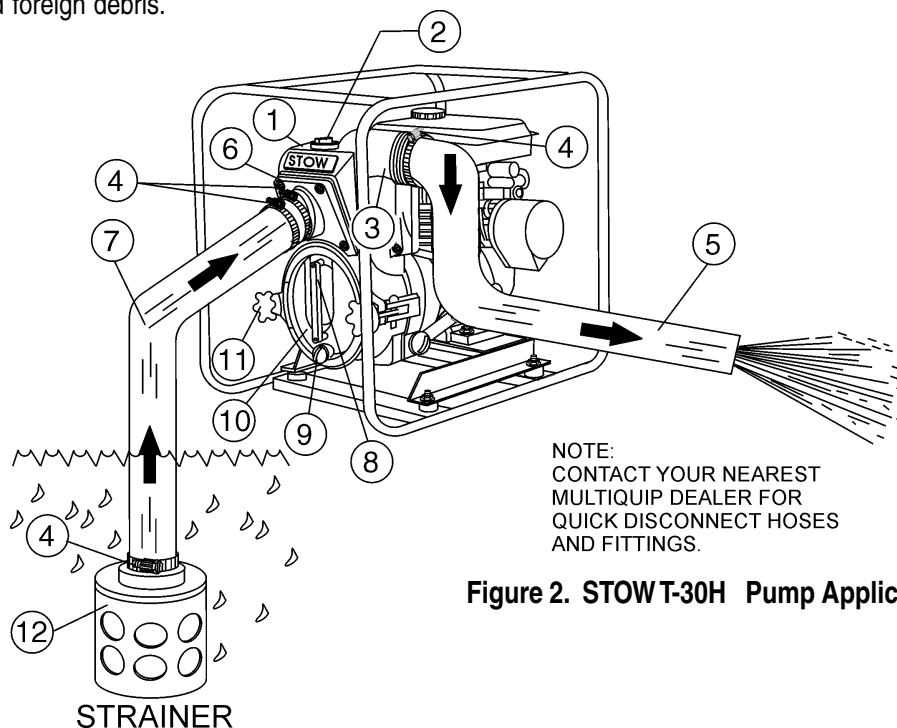

Figure 2. STOW T-30H Pump Application
Figure 2 shows a typical application using the STOW T-30H trash pump. Please note that this pump is intended for the removal of clean water and water containing some debris and solids. Maximum size of solids should not exceed 1.5 inch (38 mm) in diameter. **DO NOT** set strainer on bottom of water bed. Placing the strainer above the water bed will prevent the pump from drawing in excessive amounts of sand and foreign debris.
3. To prime pump, remove fill cap (Figure 2) and fill pump casing with water. If the pump casing is not filled with water before starting, it will not begin pumping.
6. Make sure the **suction strainer** (Figure 2) is clean and securely attached to the water end of the suction hose. The strainer is designed to protect the pump by preventing large objects from being pulled into the pump.
1. Check that all hoses are **securely** attached to the pump. Make certain suction hose (Figure 2) does not have any air leakage. Tighten hose clamps and couplings as required.
4. Check that the **discharge** hose (Figure 2) is not restricted. Place hose so that it lays as straight as it is possible on the ground. Remove any twists or sharp bends from hose which may block the flow of water.